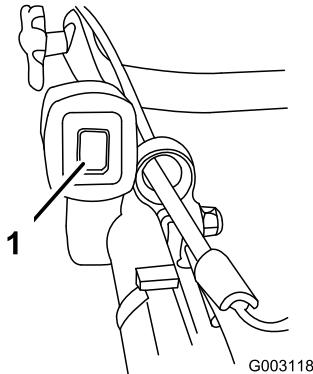

Figure 16
- Push the ignition toggle switch to the On (I) position (Figure 16).